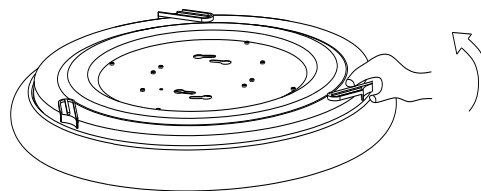

Fig. 6
7. Turn the 3 diffuser latches to the right until they are closed (figure 6).